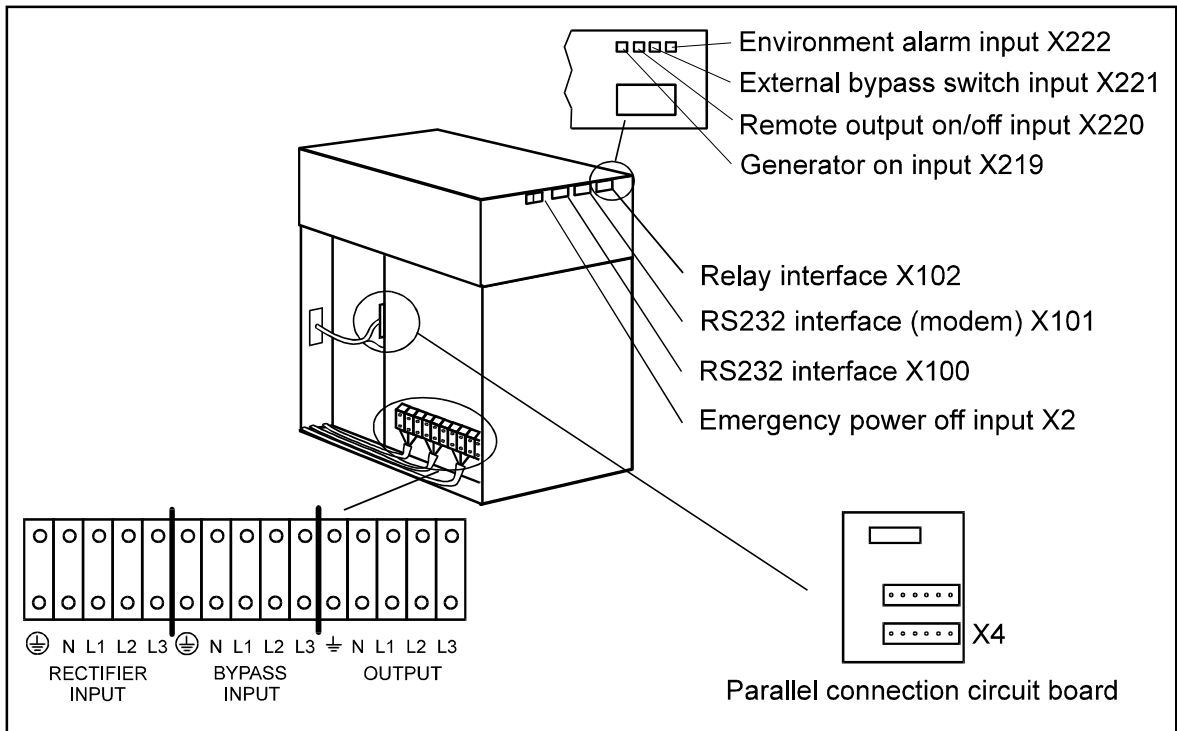
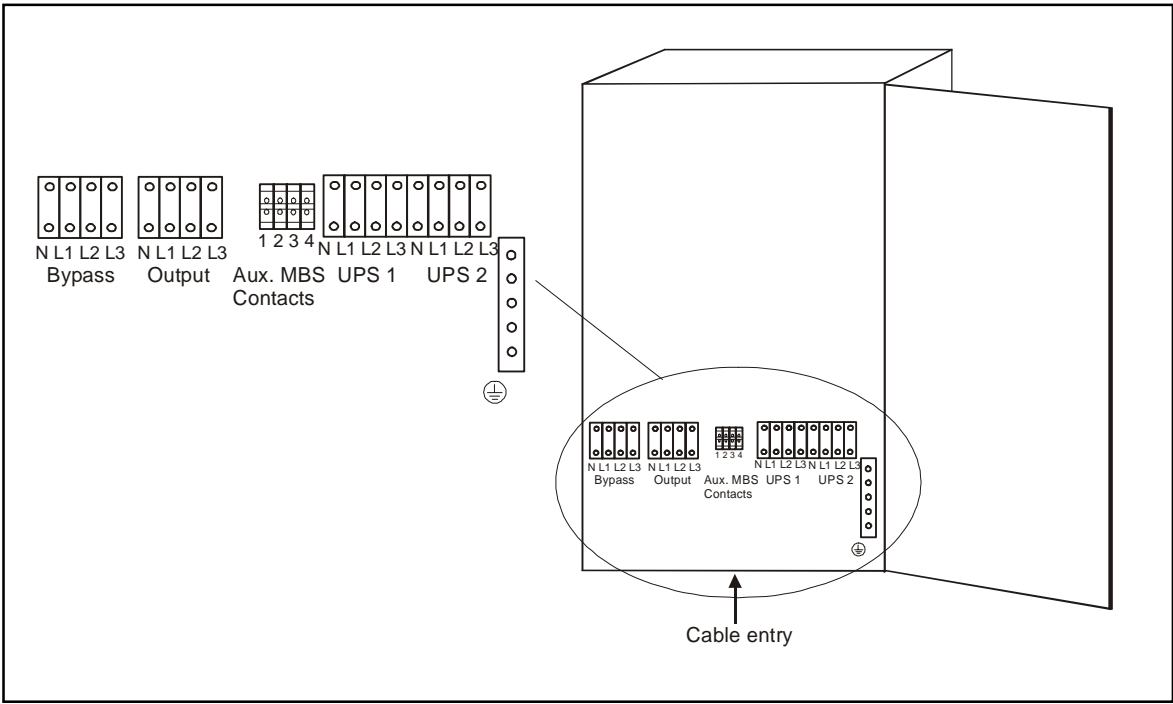
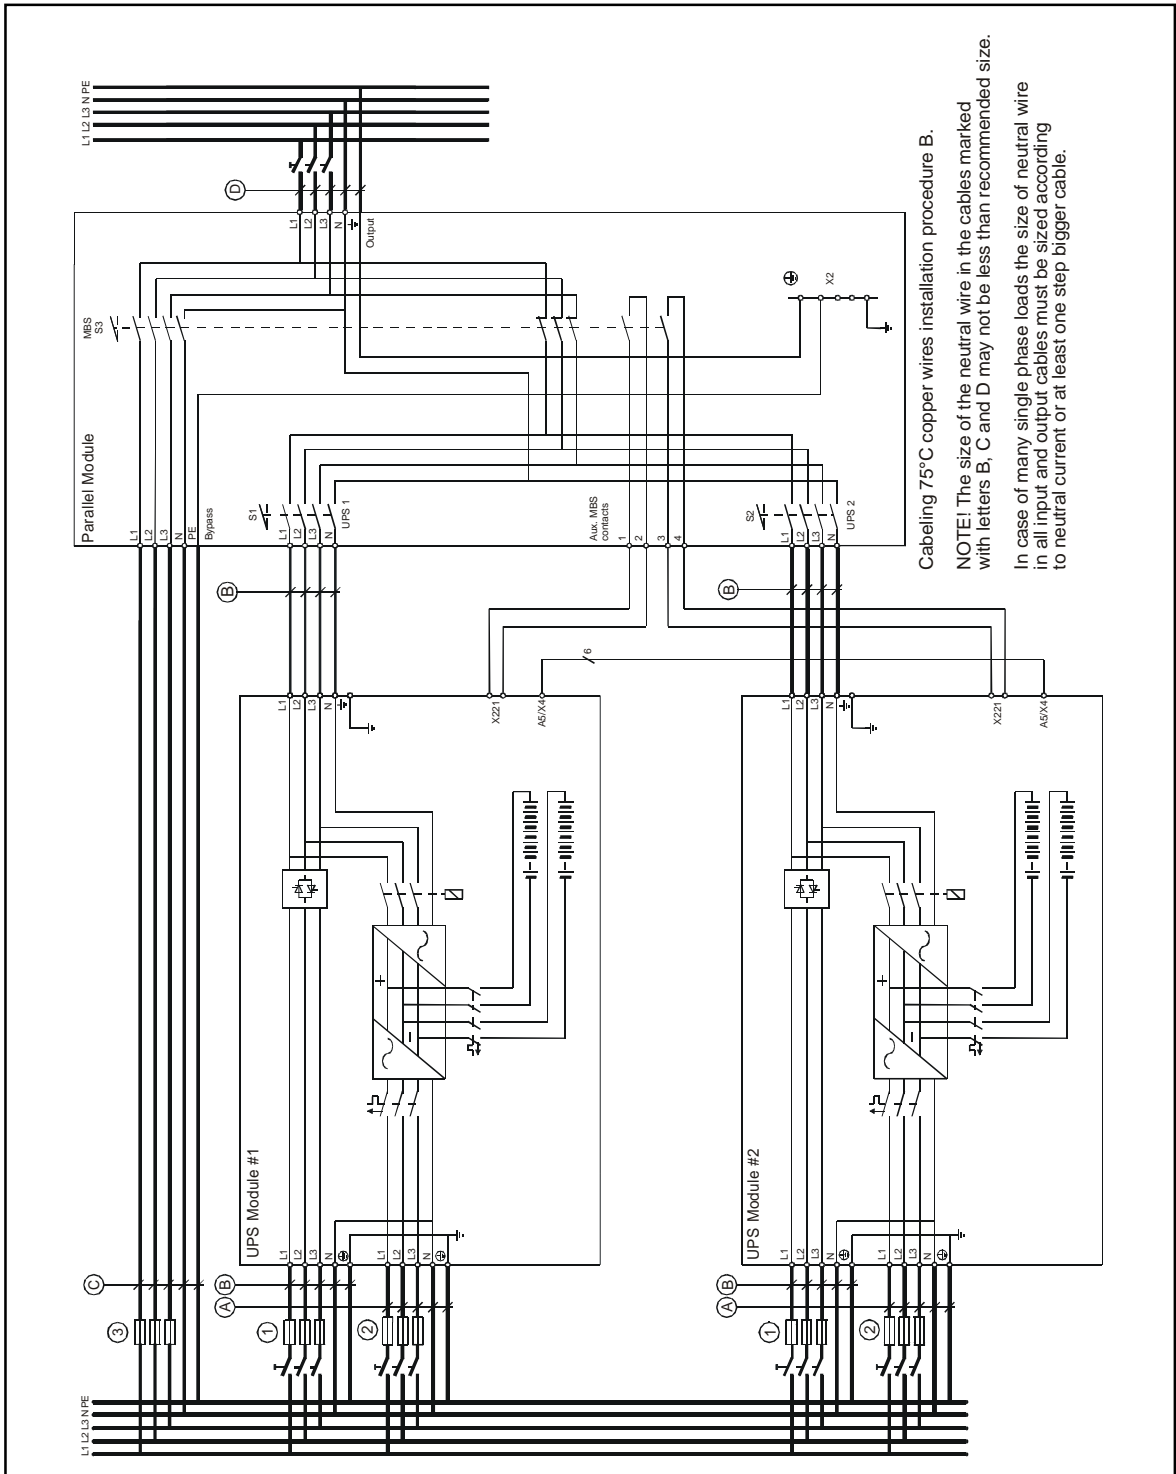

Fig. 5b. UPS connection locations
Fig. 6b. Parallel module connection locations
Fig. 7. Five-wire installation of parallel for redundancy system from 7.5 to 15 kVA
1. Check that electrical connections to the installation site have been properly executed. Also check fuse or circuit breaker ratings and cable dimensions against figure 7 and table 2.
5. The UPS units and the parallel module should be connected in accordance with figure 7.
7. Connect input cables and output cables to the UPSes (Fig 5b) and to the parallel module (Fig 6b).
9. Connect the parallel information cable between the UPS units. Connect the cable to terminal X4 on the parallel connection circuit board beside the input and output terminals (Fig 5b). The shield of the parallel information cable have to be grounded to the UPS frame from the other end of the cable. Connect the cable shield to the screw beside the parallel connection circuit board.
10. Connect the auxiliary contact information of the parallel module maintenance bypass switch to both UPSes with the cable delivered with the parallel module. Connection in UPS is to terminal X221 behind the relay interface (See fig. 5b). Make the connections according figure 7.
Table 2. Fuse and cable dimensions for five wire installations of parallel for redundancy system from 7.5 to 15 kVA. Use gG -type fuses in the installation. Note that the fuse numbers and the cable letters refer to the letters/numbers in figure 7.
An interface for direct communication with your computer system is supplied in the UPS units. The interface consists of two RS232 serial data interfaces, four potential free relays, emergency power off input and four programmable auxiliary inputs. Default values of these auxiliary inputs are: Generator on, Remote output on/off, External bypass switch and Environment alarm. These interfaces are located behind the upper front panel (see figure 5b). The UPS units are designed to fully comply with LanSafe III and PowerVision softwares.
This relay interface uses a 15-pin male D-sub connector (X102, see figures 5b). The following information is available from these relays:
This input is used to shut down the UPS from a distance. This feature can be used for emergency power down, or for shutting down the load and the UPS by thermal relay for instance in the event of room overtemperature. Remote shut down wires are connected on connector X2 (see figure 5b).
The generator auxiliary contact wires are connected on terminal X219 behind Relay Interface connector X102 (see figure 5b). In normal operation the pins of X219 are not to be connected together. When the connection between these pins are connected together by floating contacts of the generator control device, the logic circuitry on the UPS will prevent the transfer to unstable power source. When the unit is delivered the connection on terminal X219 will be open.
The external bypass switch auxiliary contact wires are connected on terminal X221 behind Relay Interface connector X102 (see figure 5b).
The remote output on/off input is used to shut down the inverter from a distance. Remote output on/off wires are connected on connector X220 behind Relay Interface connector X102 (see figure 5b).
The environment alarm input contact wires are connected on terminal X222 behind Relay Interface connector X102 (see figure 5b).